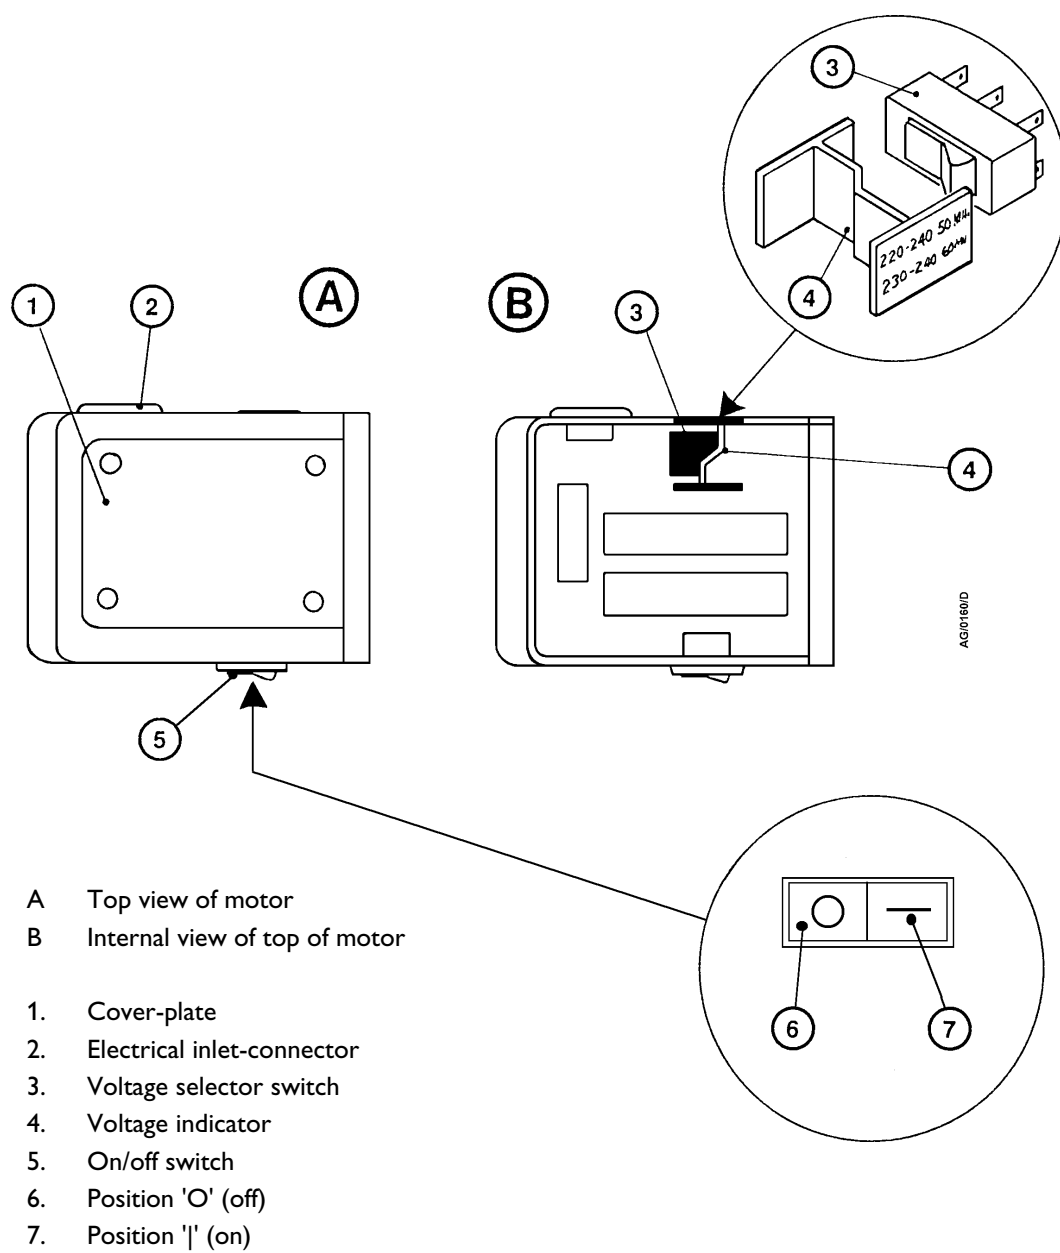

Figure 4 - Motor voltage configuration: single-phase pumps
Refer to Figure 4 for the item numbers in brackets.
1. Ensure that the on/off switch on the motor (Figure 4, item 5) is in the 'off' position.
2. Insert the moulded IEC connector at the end of the cable into the electrical inlet-connector on the motor (Figure 4, item 2).